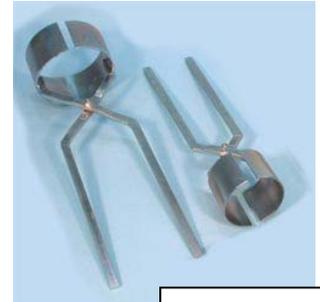

Figure 2
1. Tools designed and built for retrieval of drilled cores in pavement save time and frustration. If the core is loose in the hole, insert a core retriever (Figure 2), close it around the core, and lift it free. A thin wire loop can also be utilized to lift the core out of the hole.